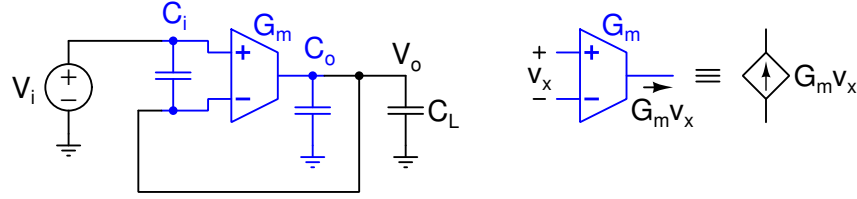

Figure 4.2: Problem 4.2.
4.2. Fig. 4.2 shows a unity gain amplifier with a capacitive load. The transconductor G_m has input and output capacitors $C_i = C_o = G_m/\omega_T$ where ω_T is a technology parameter. Assume that realizing G_m requires a bias current $I_b = 0.5(V_{GS} - V_T) \cdot G_m$. Treat $V_{GS} - V_T$ as a constant in this problem (it depends on the internal details of the transconductor). Determine the transfer function of the amplifier. Determine the bias current required to have the transfer function pole at a certain frequency ω_B . Plot I_b versus ω_B . What is your inference from this plot? If the transconductor's noise can be represented by an output noise current with a PSD $4kTG_m$, determine the integrated output noise as a function of ω_B .